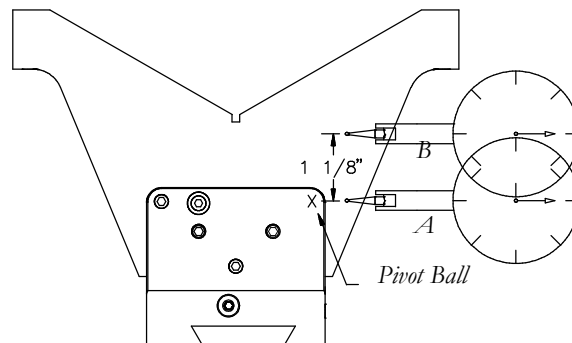

Figure 2.
STEP 8. (A). Place the indicator ball next to the pivot ball as shown in Fig. 2, point A. **(B).** Zero the indicator. **(C).** Move the indicator out 1 1/8 inch to the second mark as shown in Fig. 2, point B. **(D).** Turn the #2 jackscrew until the indicator moves back to the zero reading. (The second axis is now true).